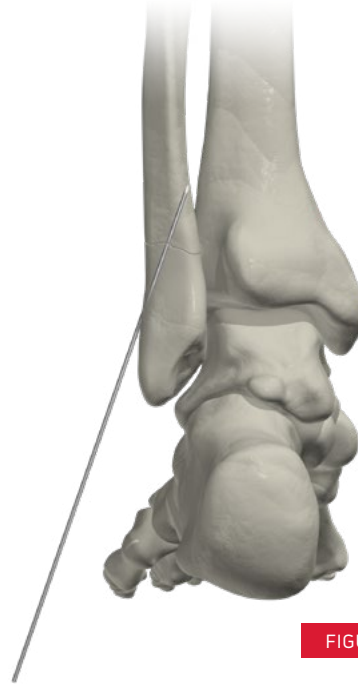

FIGURE 12
1. The fracture site is identified, mobilized, debrided, and reduced. Temporary stabilization is achieved using K-wires or a clamp, per surgeon preference (FIGURE 12).